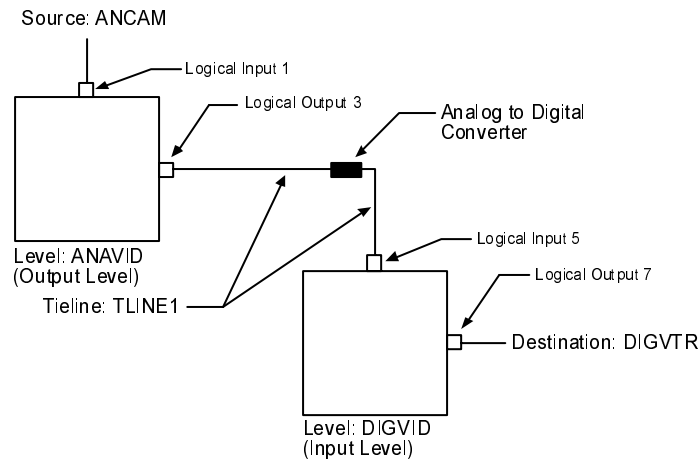

Figure 22 Configuring a Tieline
A tieline is a special type of logical switch that allows a logical input on one level to be switched to a logical output on a different level. The example shown in Figure 22 demonstrates a tieline being used to route a video signal from an analog camera, through an external analog-to-digital converter, to a digital VTR.
2. Enter the **Tieline Name**. Tieline names are one to eight characters in length and are constructed using uppercase letters, numbers, and spaces. The first character must be a letter. For the example shown in Figure 22, “TLINE1” would be used.
3. Select the **Output Level** from the drop box and enter the **Output** number. For the example shown in Figure 22, “ANAVID” and “3” would be used.
4. Select the **Input Level** from the drop box and enter the **Input** number (this is the logical input number). For the example shown in Figure 22, “DIGVID” and “5” would be used.